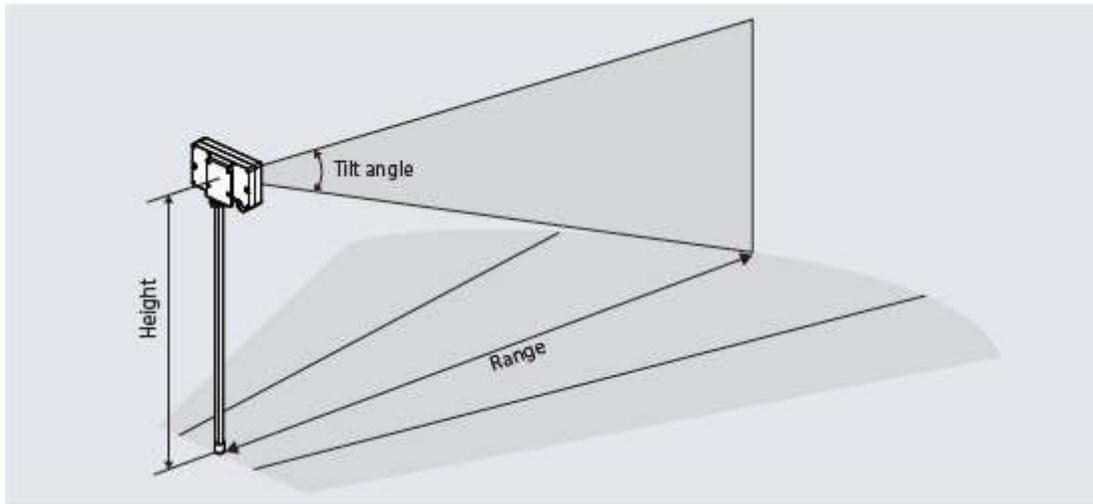

Figure 7: Tilt Angle
- In terms of tilt angle, to achieve the best performance refer to Table 3 and Figure 7. The rule of thumb is to point the radar such that the maximum desired detection range is at the center of the elevation coverage range of the radar.